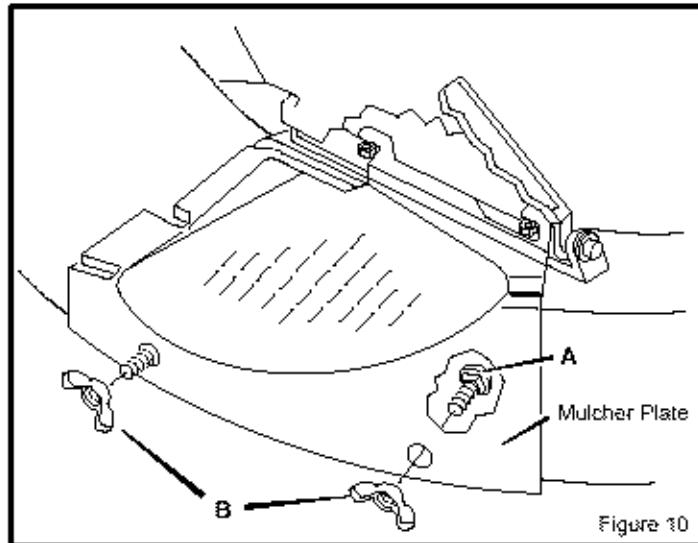

Figure 10
1. Raise the deflector. Remove the two wingnuts **B** and two carriage bolts **A** (Figure 10).
4. Fasten the mulcher plate with two wingnuts **B** and two carriage bolts **A** (Figure 10).